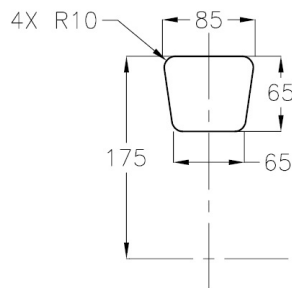

Figure 8-164b Dimensions of Section 1
shown in Figures 8-164b and 8-164c. Section 3 is a mirror image of Section 1, but you need to create it separately as an individual sketch. **(Expected time: 45 min)**
2. Draw the sketch for Section 1 and dimension it with respect to the origin. Refer to Figure 8-164b for the dimensions of Section 1.